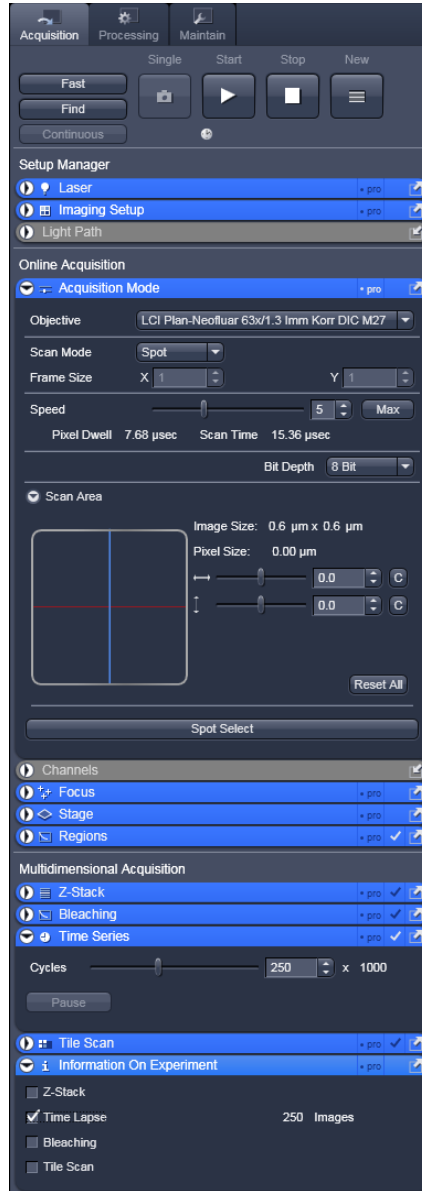

Fig. 3.14: Point Measurement Mode in the LSM510 software.
7. When a satisfactory IRF appears on the oscilloscope window, stop the measurement in the oscilloscope window and start a **point measurement** as described in Fig. 3.14 and the corresponding chapter. Based on this IRF raw data file (in T3R or PT3 file format) an IRF TCSPC histogram can be build up (see following chapter for details).
1. **LSM510 software:** Enable the “Spot” measurement mode (Fig. 3.14). Clicking on “Spot Sel” results in scanning of an image where you can select a position for your point measurement. The scanner only moves to the indicated position, when the time series measurement is started and moves back to the standby position after the measurement has stopped (Fig. 3.15). Of course, for checking the position, the light has to be guided to an internal detector.